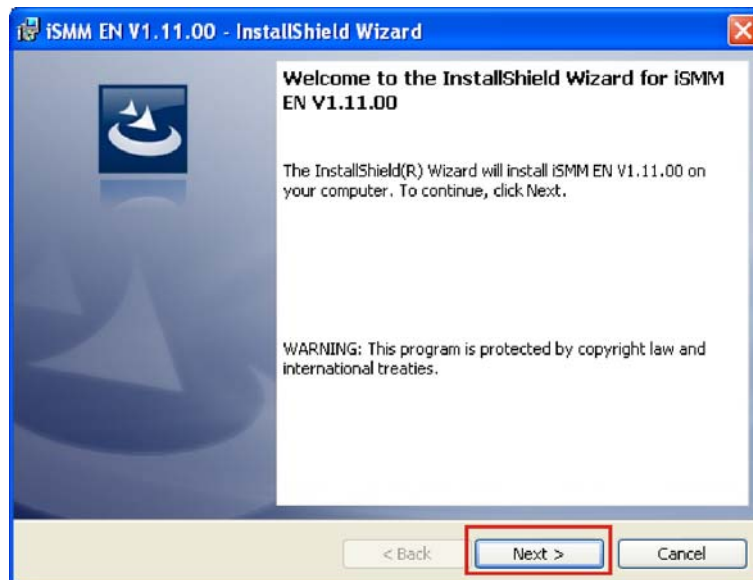

Figure 6-37: iSMM InstallShield Welcome Screen
Step 7: The iSMM InstallShield Welcome Screen appears. (Figure 6-37)